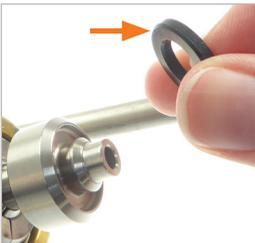

Figure 11
- ▶ Insert the new front seal (Pos. 7) into the thoroughly cleaned recess (*Figure 11*). Make sure that the front seal is not twisted and is properly seated in the recess. The new front seal can be inserted without using any tools.